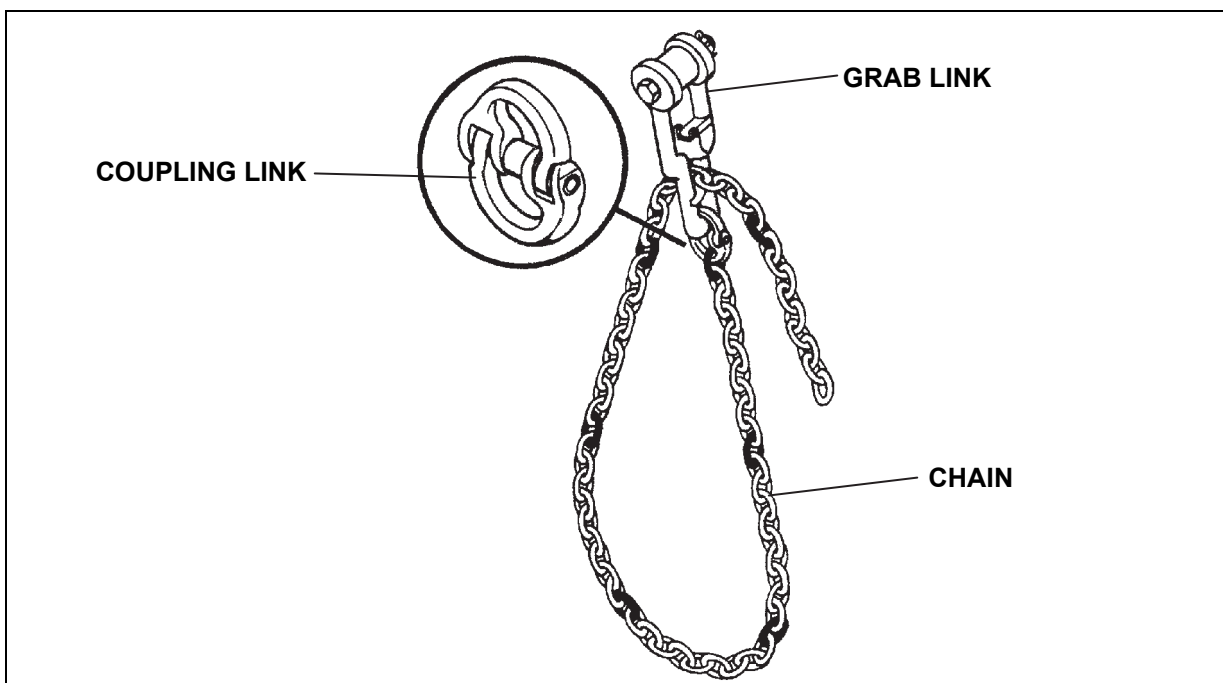

Figure 6-34. Chain Assembly
- Chain Assembly.** The 8-foot chain assembly has 70 links. Starting from the free end, every tenth link is painted olive drab to help in counting links. If additional lengths of chain are necessary, they can be joined to the existing chain leg using a coupling link. The chain link identified in the rigging procedures is inserted in the slot of the grab link (figure 6-34).